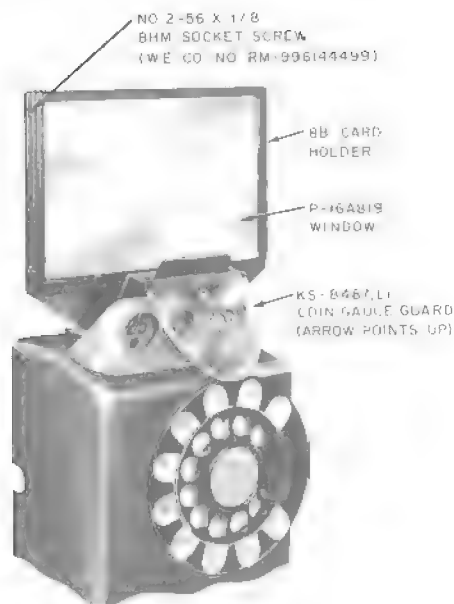

Fig. 9—Dial Type Coin Collector Equipped with Coin Gauge Guard
2.13 The 8-type card holders mount on top of the housing behind the coin gauge (Fig. 9). Three P81J700 slotless machine screws, three P-92383 hex nuts, and three P-423631 lockwashers hold the card holder in place.
2.15 Postpay coin collectors without coin-release pushbutton mechanisms may be equipped with a KS-8487, List 1 coin gauge guard (Fig. 9) or a KS-8487, List 2 coin gauge guard (Fig. 8). Coin gauge guards are designed to alert the customer to read the instructions before depositing coins. The device consists of a mounting bracket and a transparent hinged guard with the word READ and a vertical red arrow. The guard must be raised before depositing coins.